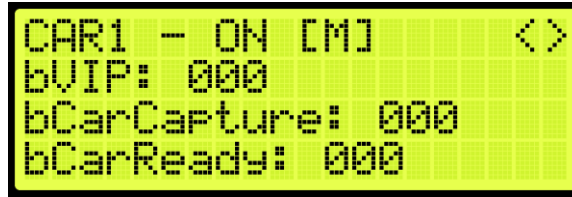

Figure 276: VIP Flags Status
13. From the VIP Flag Status (See Figure 276), press the right button.
13. From the VIP Flags Status (See Figure 276), press the right button.